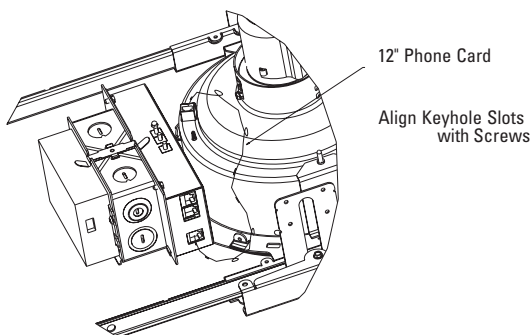

Figure 3
6. Plug in phone cord from LED driver located on housing (see Figure 3).